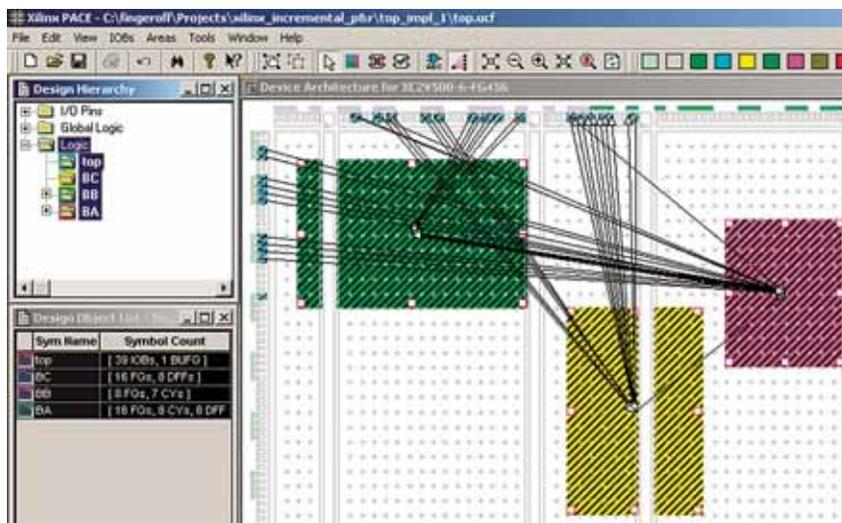

Figure 3 – Floorplanning using Xilinx PACE tool
- **Separate area groups for each functional block** – You must create a Xilinx area group for each major design block. Area groups are created and placed using the Xilinx PACE tool, which takes as its input a UCF (produced by Precision RTL Synthesis), and an NGD file produced during the translate stage (Figure 3). Area groups must not overlap, because that might adversely affect performance. Assigning non-overlapping area groups to major hierarchical blocks allows the ISE program to completely re-place and